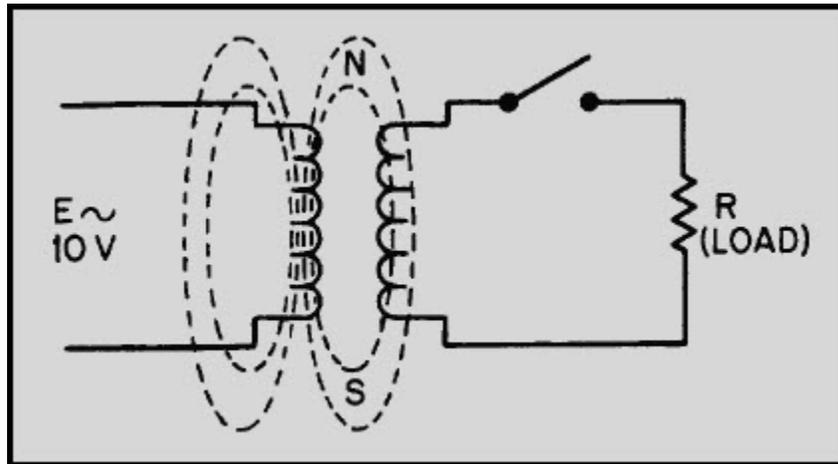

Figure 5-8 Transformer under no-load conditions
A no-load condition is said to exist when a voltage is applied to the primary, but no load is connected to the secondary, as illustrated by figure 5-8. Because of the open switch, there is no current flowing in the secondary winding. With the switch open and an ac voltage applied to the primary, there is, however, a very small amount of current called **EXCITING CURRENT** flowing in the primary. Essentially, what the exciting current does is "excite" the coil of the primary to create a magnetic field. The amount of exciting current is determined by three factors: (1) the amount of voltage applied (E_a), (2) the resistance (R) of the primary coil's wire and core losses, and (3) the X_L which is dependent on the frequency of the exciting current. These last two factors are controlled by transformer design.
To visualize how a voltage is induced into the secondary winding of a transformer, again refer to figure 5-8. As the exciting current flows through the primary, magnetic lines of force are generated. During the time current is increasing in the primary, magnetic lines of force expand outward from the primary and cut the secondary. As you remember, a voltage is induced into a coil when magnetic lines cut across it. Therefore, the voltage across the primary causes a voltage to be induced across the secondary.